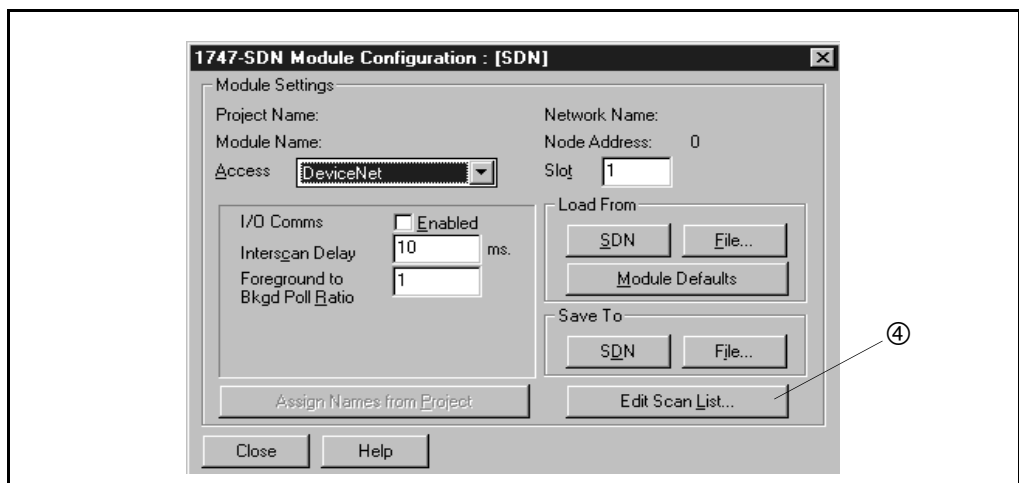

Figure 4.3 – 1747-SDN Module Configuration Dialog Box
Step 4. Click **Close** to close the Scan List Editor dialog box. A message box appears and prompts you to save the configuration to a file. If desired, save to a file. The 1747-SDN dialog box (see figure 4.3) appears.